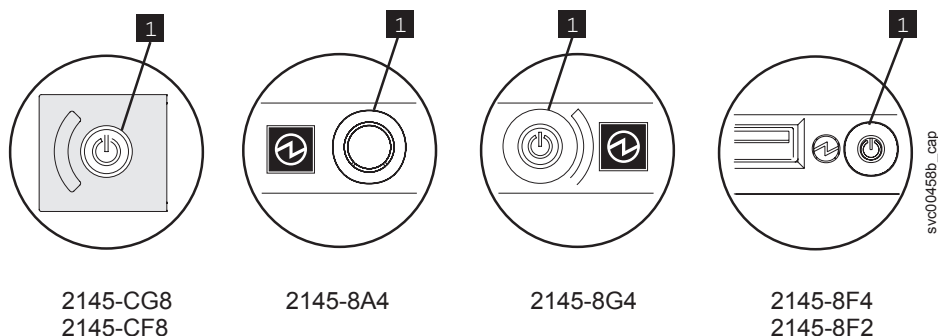

Figure 91. SAN Volume Controller models 2145-CG8, 2145-CF8, 2145-8A4, 2145-8G4, and 2145-8F4 or 2145-8F2 power-control button
3. Press and release the power-control button **1** shown in Figure 91 on page 104 for SAN Volume Controller models 2145-CG8, 2145-CF8, 2145-8A4, 2145-8G4, and 2145-8F4 or 2145-8F2. Wait one minute for the SAN Volume Controller to turn off. Ignore a missing node error code if displayed by other nodes in the cluster. When maintenance procedures are completed, the error will resolve itself.